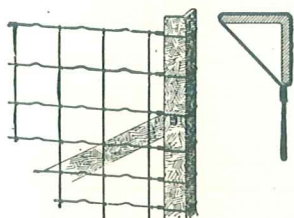

Figure 6
**Starting:** Do not unroll your fence a whole roll at a time. Unroll only a little to begin with—just enough to give you sufficient working room to attach the end of the fence to the starting post. The best and most secure way to make this attachment is to remove the first 3 or 4 stay (upright) wires, then tie the long end of each line wire clear around the post (see Figure 6). Be careful to get the stays absolutely vertical before you do this tying or you will have trouble in stretching later on.